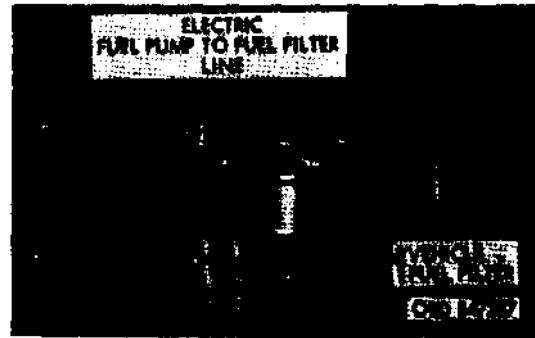

Figure 598. Installation and removal of electric fuel pump
- (1) Install one end of fuel line into vehicle fuel filter on the left side of the frame cross member (fig. 598) and the other into the electric fuel pump.